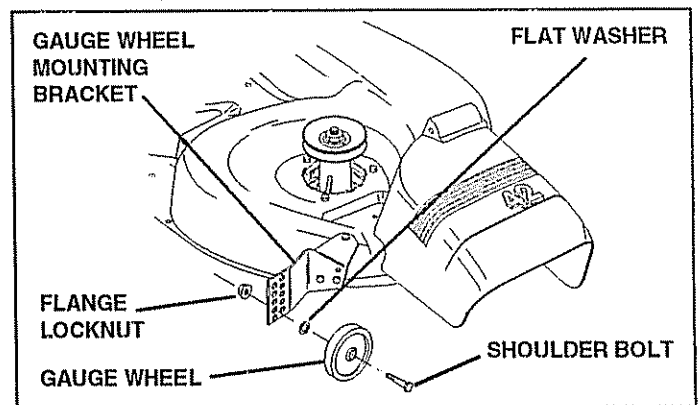

FIG. 6
(See Fig. 6)
- Slide seat until a comfortable position is reached which allows you to press clutch/brake pedal all the way down (See Fig. 6).
ASSEMBLE GAUGE WHEELS TO MOWER DECK (See Fig. 6)